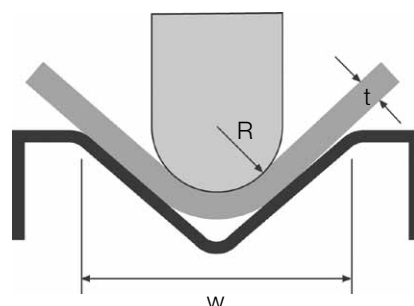

Figure 1 Schematic diagram of bending.
BISPLATE® 450 can be cold bent by the brake press-bending method as shown in Fig 1. Plate rolling techniques can also be employed. However, BISPLATE® 450 has higher hardness and strength levels compared to plain carbon steels and therefore suitable consideration of sufficient machine power, plate bending direction and former radii (R) must be made. BISPLATE® 450 should be bent at room temperature or below 200°C to avoid reduction of mechanical properties.